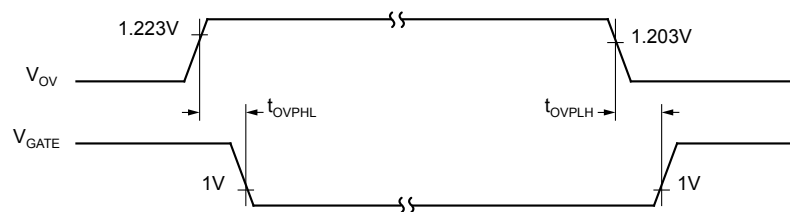

Figure 3. Overvoltage Response
| $t_{OVPHL}$  | OV to GATE Low (6) (Figure 3)                                |                                                         |     | 1   |     | $\mu s$ |
| $t_{OVPLH}$  | OV to GATE High (6) (Figure 3)                               |                                                         |     | 1   |     | $\mu s$ |